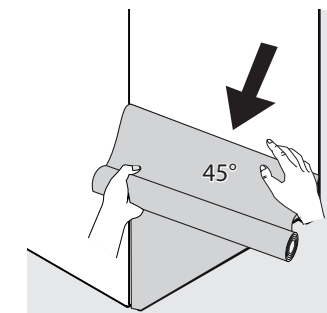

Fig. 4
3. Pull the lower section of the protective film downward at a 45° angle, gathering any loose excess film, rolling it up. Continue pulling the film until it is approximately 2" from the lower door edge. **Note:** It may be helpful to place second hand on the film in close proximity to the door panel to ease the film removal process (Figure 4).